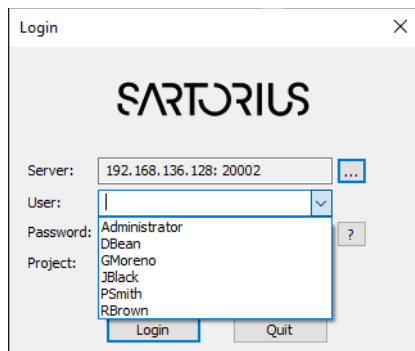

Figure B-11: Login screen with server address configured
4. At the login screen (Figure B-11), the user dropdown list has the usernames configured on the server. Select an appropriate username, enter the password, and click Login.